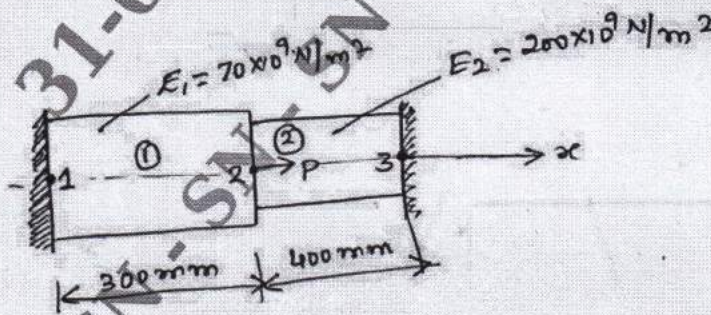

Fig. Q5 (a)
5. a. Determine the nodal displacements, stresses in each element and support reactions for the bar as shown in Fig. Q5 (a). Using elimination method for handling boundary conditions. (12 Marks)